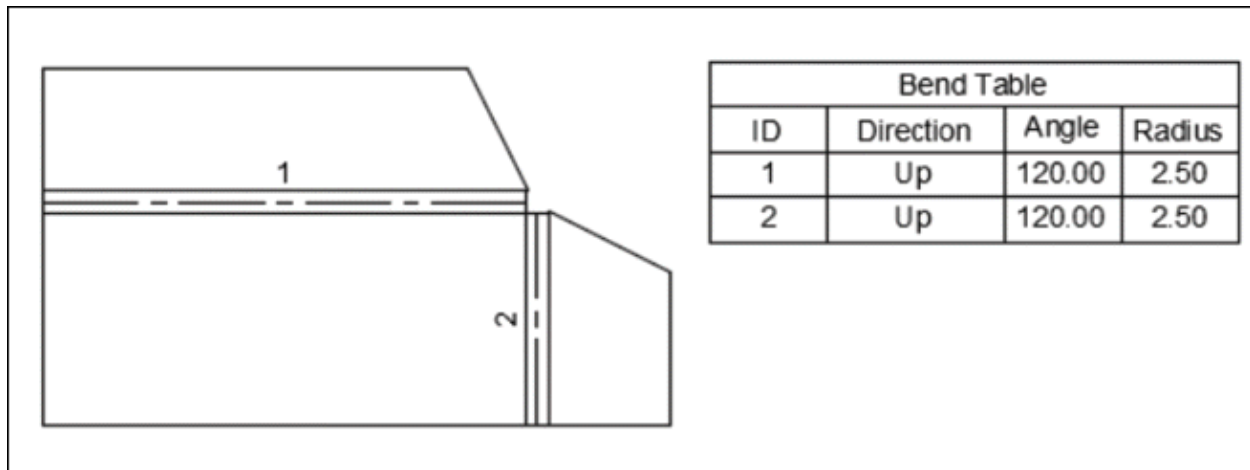

Figure-117. Flat pattern with bend table
- Click on the **Table** tool from **TABLES** drop-down in the **Toolbar** and place the bend table at desired location; refer to Figure-117.